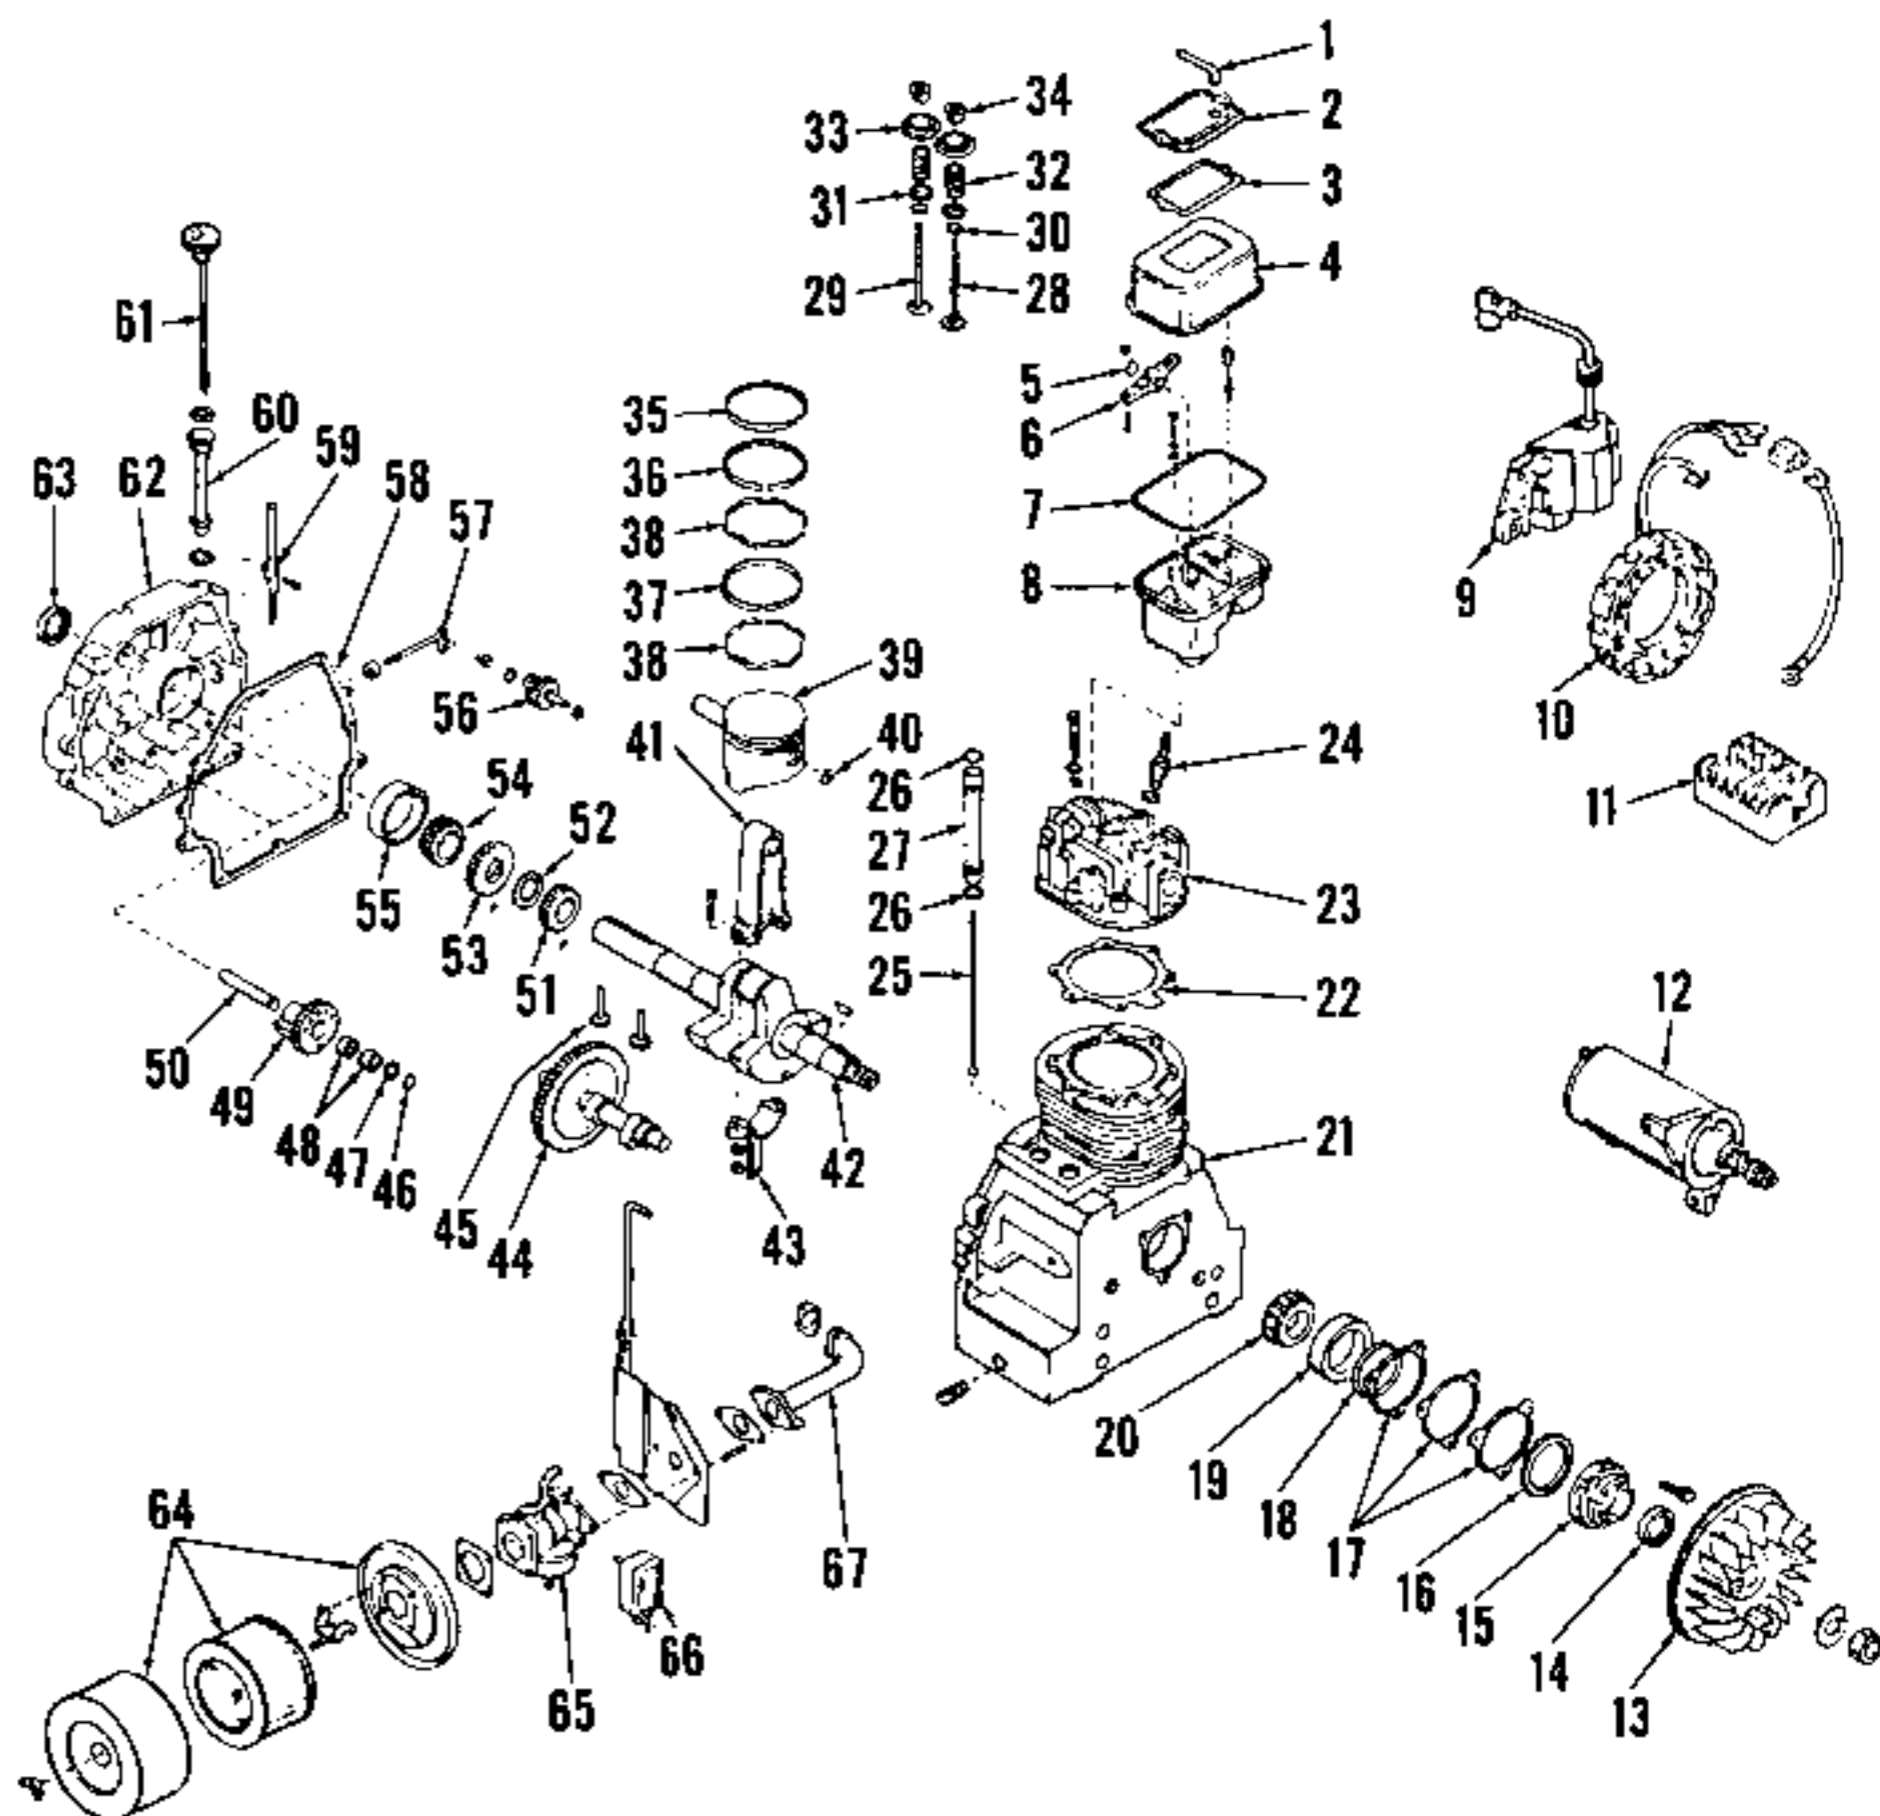

Fig. T76 - Exploded view of basic engine.
CRANKSHAFT. The crankshaft is supported by tapered roller bearings (20 and 54 - Fig. T76). Use a suitable puller to remove bearings. Bearings will be damaged during removal and new bearings must be installed when reassembling. Heat bearings in oil to approximately 300°F (150°C), then quickly slide bearings into position on crankshaft. Bearing cup (55) in a press fit in crank-